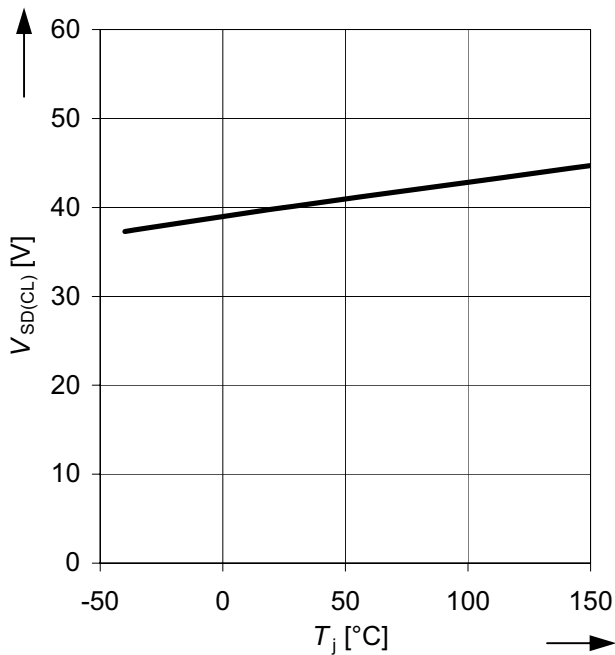

Figure 33 Source to Drain Smart Clamping voltage $V_{SD(CL)}$ as a function of the junction temperature T_j
4) See Figure 33 for typical temperature dependency.